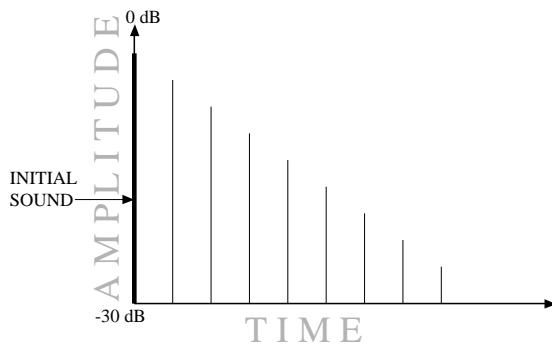

Fig 3-9
**Feedback (Tap #):** Controls the amount of feedback, or number of repeats, in the delay line. In multi-tap delays, this Parameter controls the feedback amount of the last tap in the series. Variable from 0 (Off) to 100%. See fig. 3-9.
**Repeat Hold:** This is the infinite repeat Parameter. When turned on, the delay taps will repeat indefinitely until the REPEAT HOLD Parameter is disengaged. See fig. 3-9.